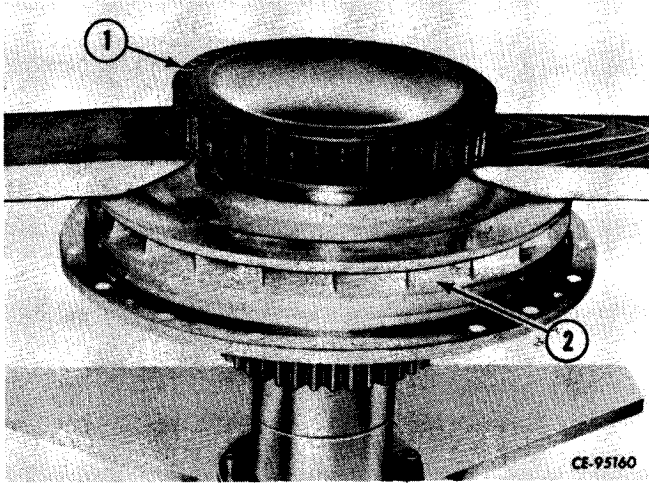

Figure 3-13
Taper the ends of two wooden boards (Fig. 3-13) and carefully and evenly pry the guide wheel (1) from the guide carrier. Remove the impeller wheel (2) from the guide carrier.